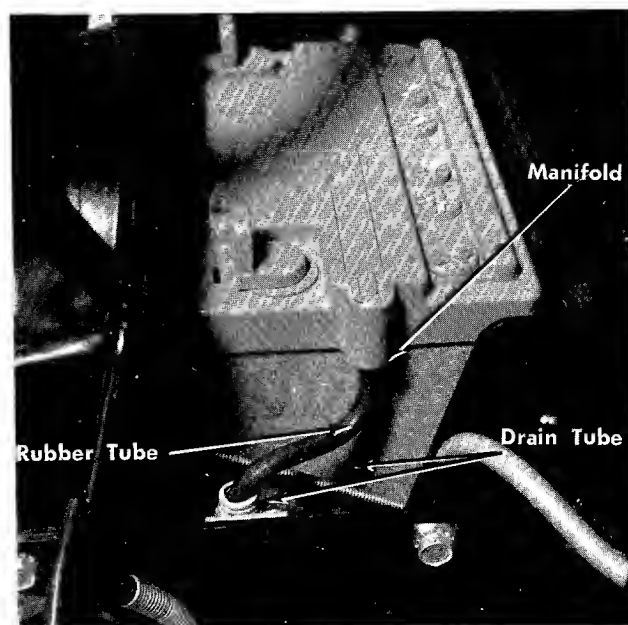

FIGURE 7.
Step 7. Push the rubber tubing into the manifold of the battery and place the other end into the drain tube. (See figures 7 and 8.)